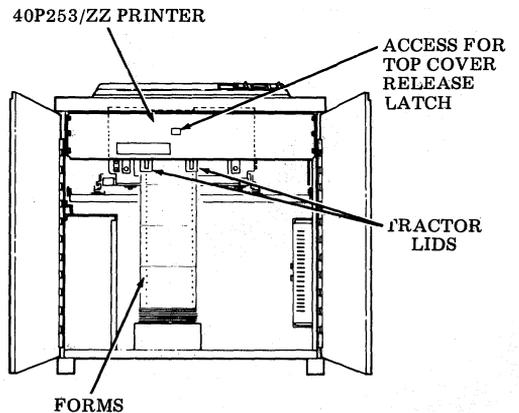

Fig. 7
- (a) Open the left front cabinet door (Fig. 7).
- (b) Push the top cover release latch (Fig. 7) and lift top cover to its full open position.
- (c) Remove forms from printer by opening left and right tractor lids (Fig. 7).